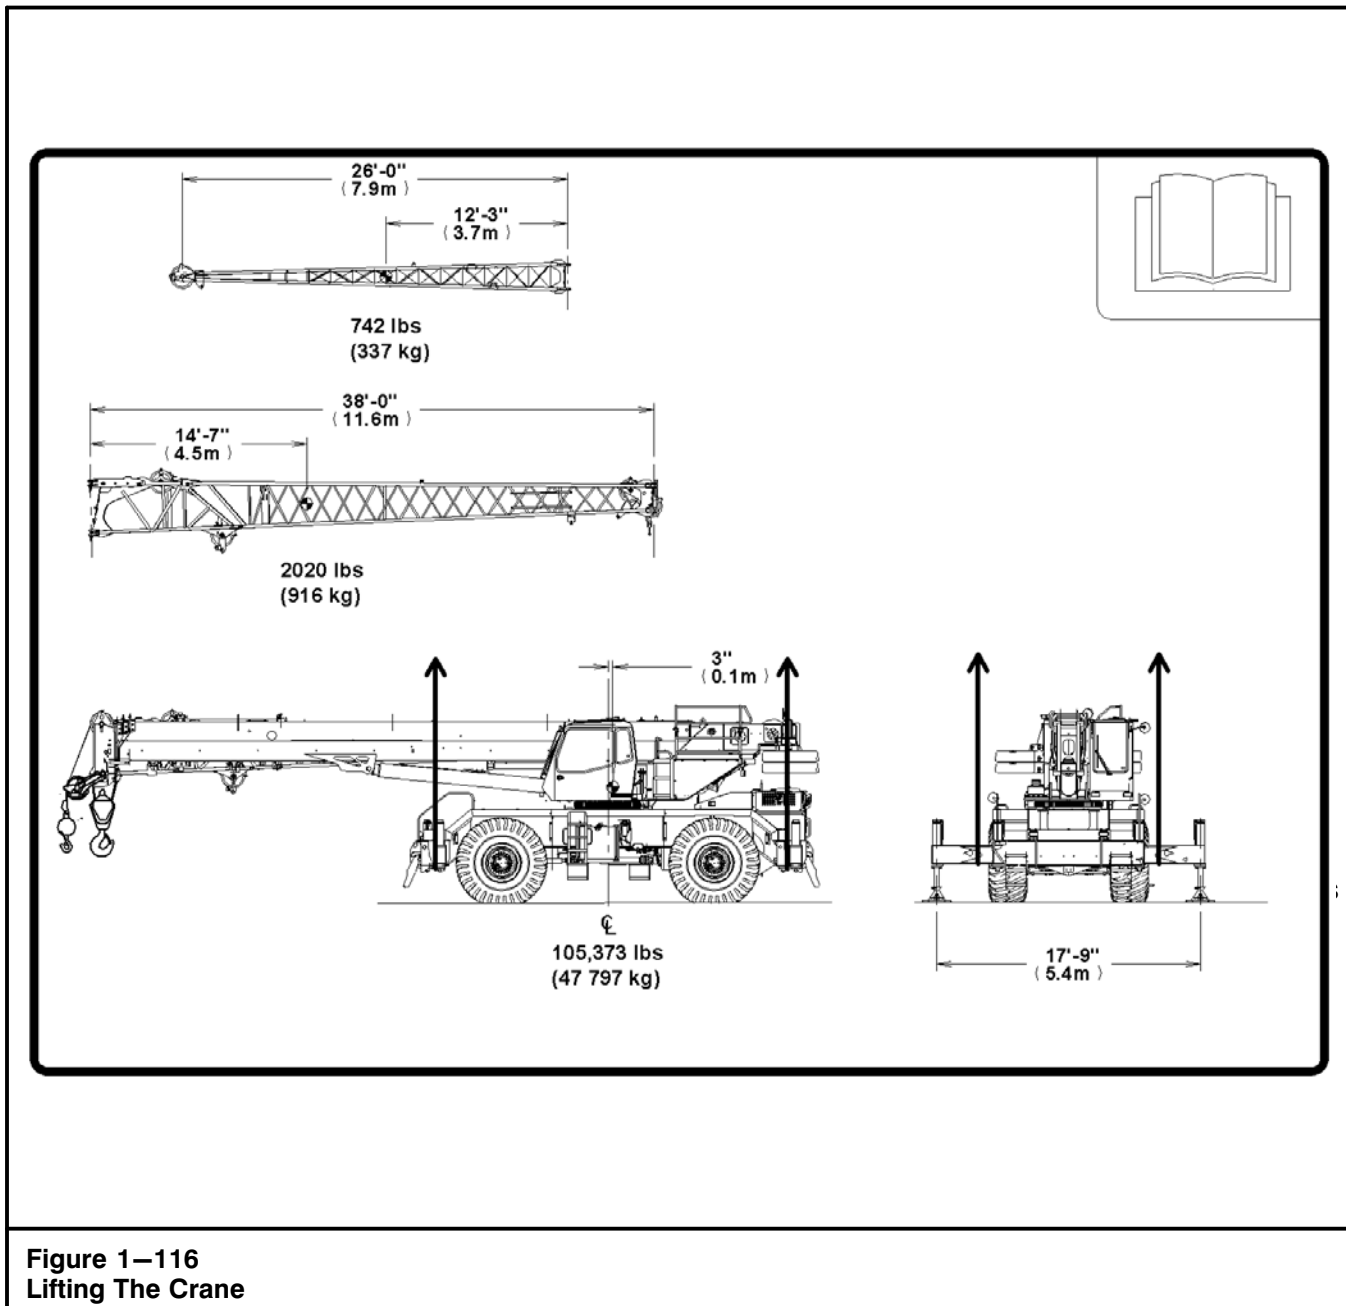

Figure 1–116
The entire crane (except the fly) can be lifted or the components may be removed from the crane and lifted individually. Refer to Figure 1–116 for the center of gravity (CG) and weights for the entire crane and the individual components. The following conditions and precautions must be met before lifting the crane or removing any component.
9. Use only properly attached nylon straps to lift fly base or fly tip to prevent damage to the component. Refer to Figure 1–12. Protect the straps from sharp edges.